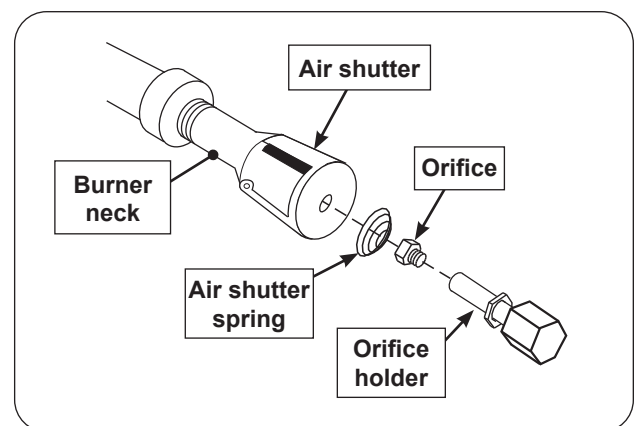

**Fig. 39-2** Flame collimator removal
6. Squeeze the collimator to detach the rear tab from the rear liner as shown in Fig. 39-2, A, and lift up the rear portion of the collimator.
7. Detach the collimator from the front collimator support and completely remove the collimator as shown in Fig. 39-2, B.